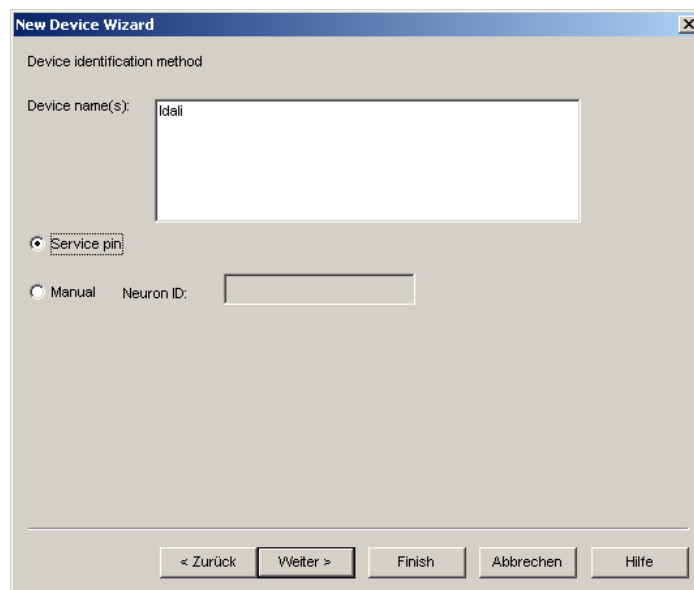

Figure 87: Use Service Pin.
6. Check Service Pin as the device identification method as shown in Figure 87 and click **Next**.